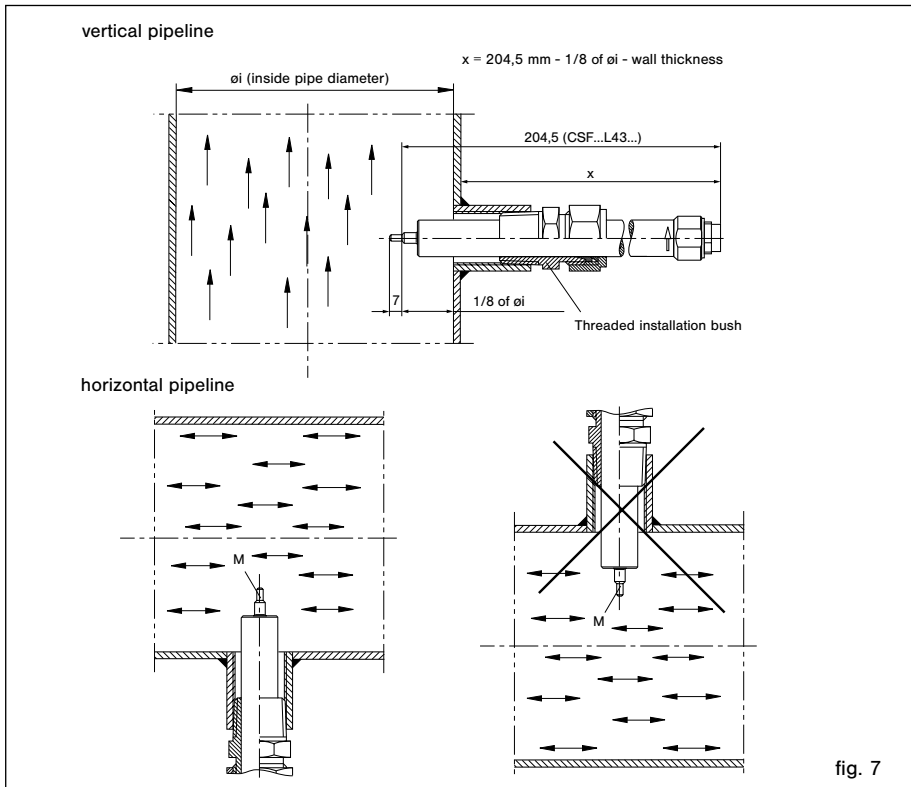

fig. 7
- cable gland PG16 nickel-plated brass (see fig. 7)
- threaded installation bush stainless steel 316 (cutting ring) (see fig. 7)